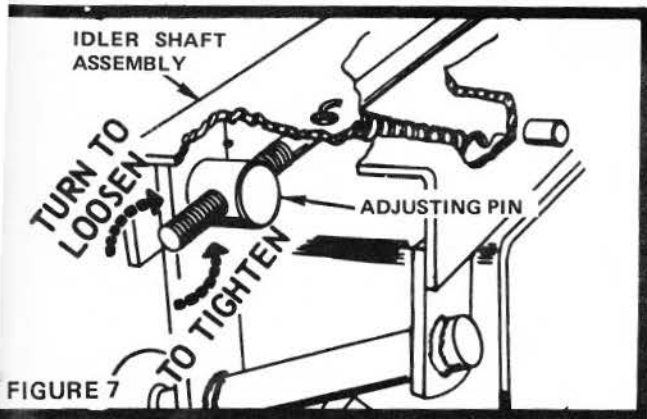

FIGURE 7
1. Adjust belt by turning Adjusting Pin (Fig. 7) counterclockwise to tighten; clockwise to loosen. Engage Mower Clutch Control Lever (push forward). Belt is properly adjusted when Belt can be squeezed together with thumb and fore finger (without undue pressure) midway between Engine Pulley and Idler Sheaves. After first 2 hours of mowing, re-check Belt for proper tension (Fig. 9).